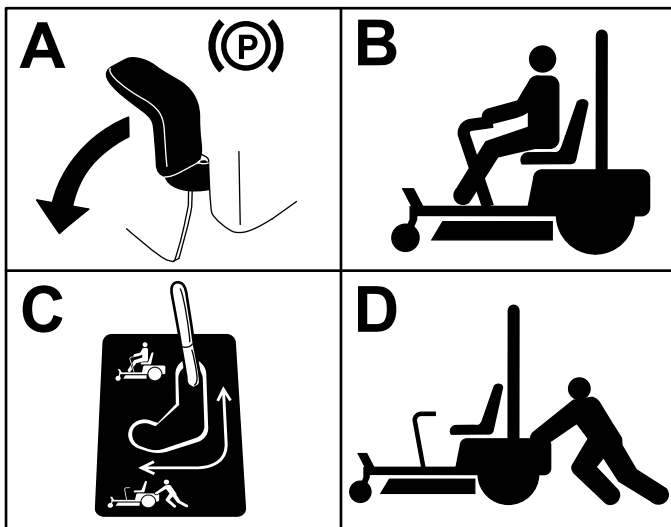

Figure 37
3. To push the machine, move the bypass levers rearward and out to lock them in place as shown in Figure 37.